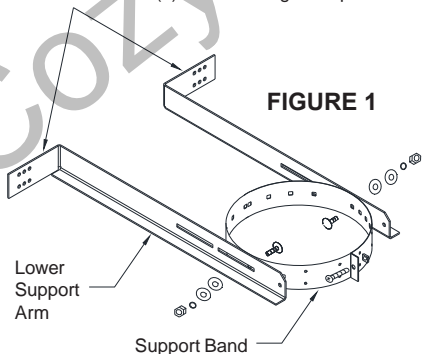

FIGURE 1
The Extended Wall Support (Figure 1) allows for an adjustment up to 12 inches from a vertical wall to pass by a 12" overhang. It is designed to support up to 28 feet of chimney above the Insulated Tee (see Table 1).
1. Orient the band as shown in Figure 1, then (from the inside) insert an elevator bolt (one on each side) through the band (at points half way across the formed band).